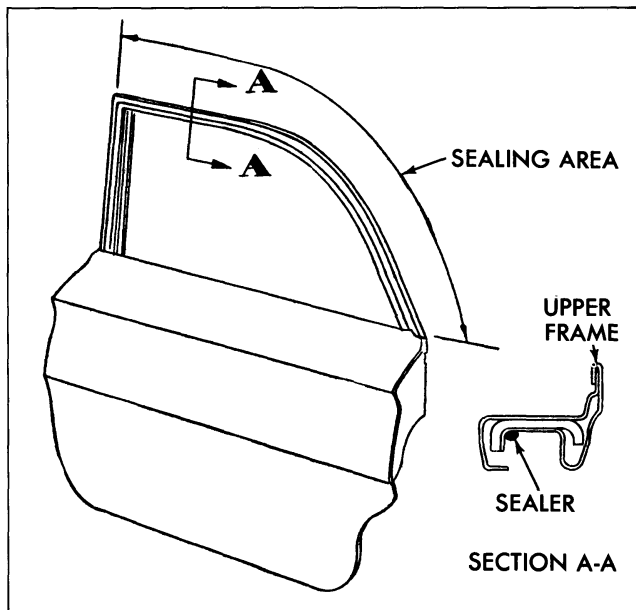

Fig. 3-57 Upper Frame Sealing
5. Prior to installation, apply a bead of medium bodied sealer along section of door window upper frame shown in Fig. 3-57.